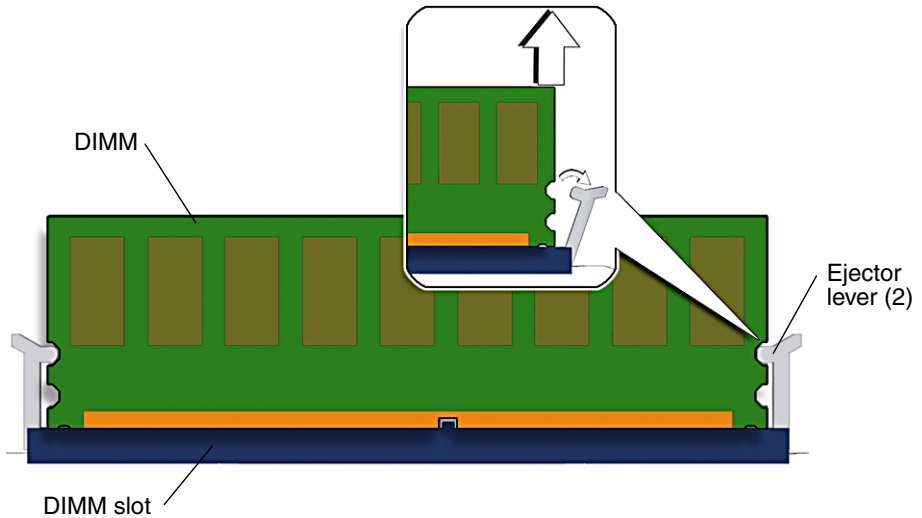

FIGURE 11-2 Releasing the DIMM
6. Release the desired DIMM (FIGURE 11-2).